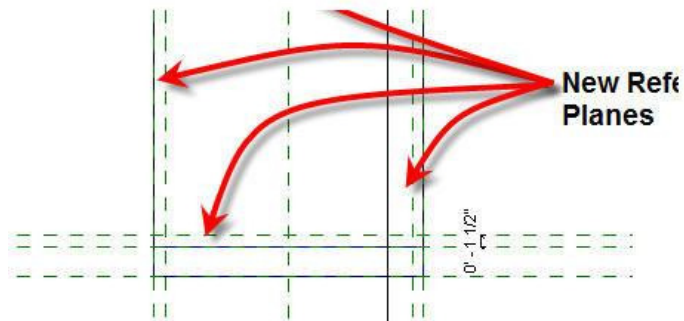

Figure 34. The window frame width Reference Planes and dimensions (before assigning the Window Frame Width parameter).
20. Use the Pick Existing Line/Edge tool as done previously in Step 4 to create the Reference Planes to define the four inner edges of the window frame as shown in Figure 34. Use an offset of 1 1/2".
21. Use the Aligned tool from the Detail ribbon to create the dimensions shown in Figure 34.